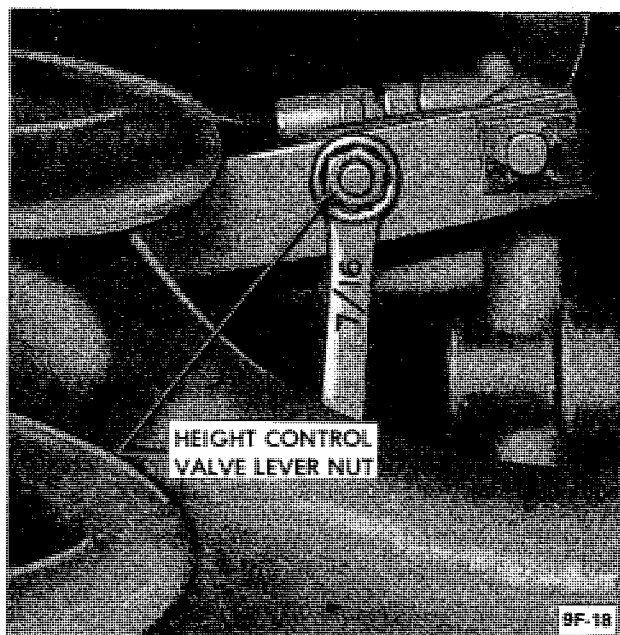

Figure 9F-5 - Loosen Height Control Valve Lever Nut
2. Hold overtravel body down in exhaust position until air escapes from exhaust port. See Figure 9F-6.